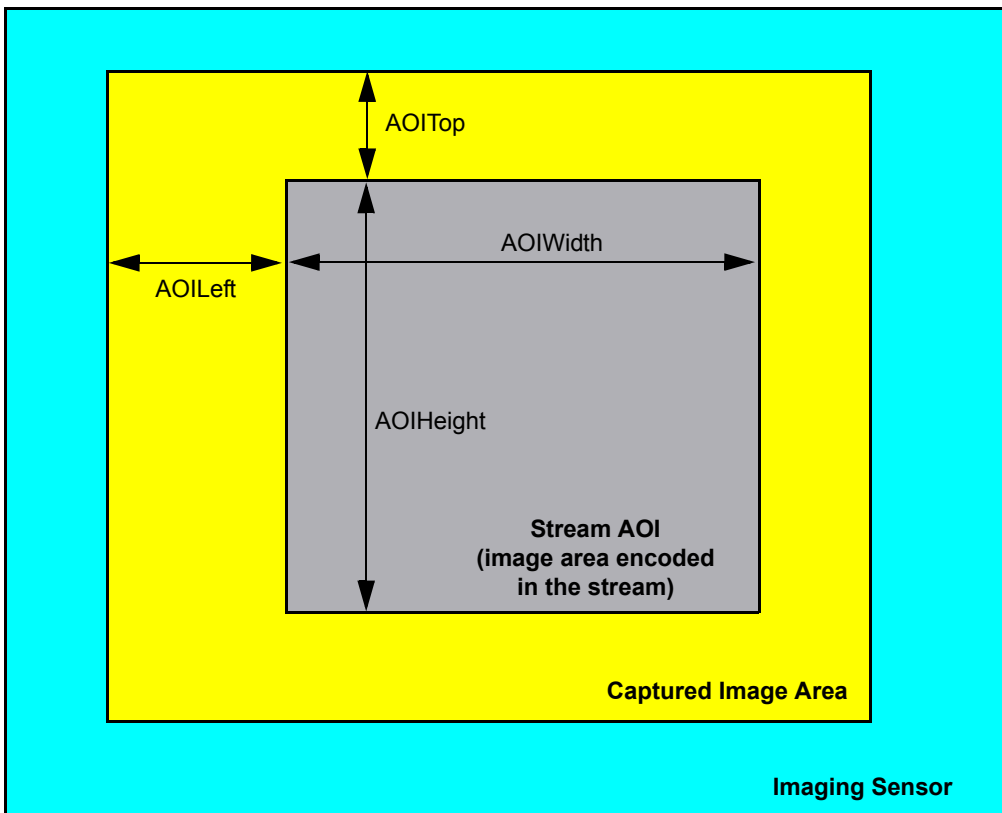

Fig. 5: Stream AOI
**Stream AOI Left** - As shown in Figure 5 on page 26, sets the left offset (in pixels) for the stream AOI, i.e., how far the stream AOI will be offset from the left edge of the image area captured by the camera's sensor. The setting must be a multiple of 8.\*
**Stream AOI Top** - As shown in Figure 5 on page 26, sets the top offset (in pixels) for the stream AOI, i.e., how far the stream AOI will be offset from the top edge of the image area captured by the camera's sensor. The setting must be a multiple of 2.\*
**Stream AOI Width** - As shown in Figure 5 on page 26, sets the width (in pixels) of the stream AOI. The setting must be a multiple of 8.\*
**Stream AOI Height** - As shown in Figure 5 on page 26, sets the height (in pixels) of the stream AOI. The setting must be a multiple of 8.\*